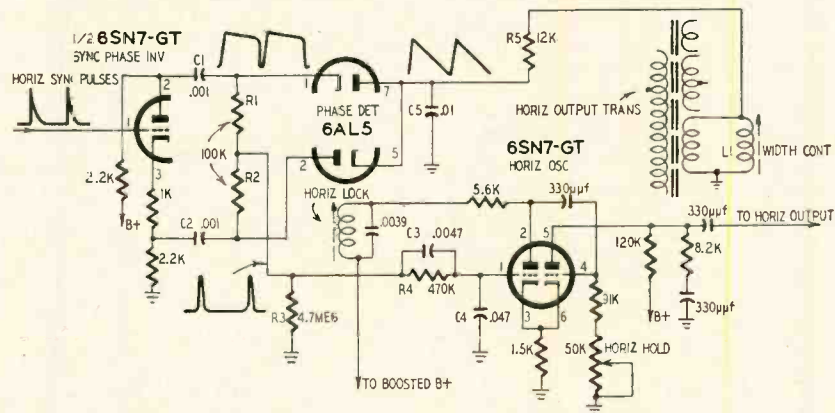

Fig. 4—Diagram of diode phase detector automatic frequency control circuit.
1. *Phase detector* (Fig. 4). In this system, a square wave is taken from the horizontal output circuit and integrated (fed through R5-C5 with the output taken across the capacitor). The resultant sawtooth wave is applied to one plate and one cathode of a dual diode (pins 5 and 7 of a 6AL5). Positive horizontal sync pulses are applied to the other diode plate (pin 2) and negative horizontal sync pulses to the other cathode (pin 1) of the 6AL5. When the sync pulses and sawtooth are the same frequency and in phase, no a.f.c. output voltage is developed. When the horizontal sawtooth is at a different frequency or out of phase compared to the sync pulses, one or the other of the diodes conducts. Either a positive or a negative d.c. voltage is then developed at the grid of the horizontal oscillator.
4. *Triode phase detector* (Fig. 7). The general operation of this circuit is similar to the phase detector of Fig. 4. A triode is used instead of a dual diode. The negative horizontal sync pulse input is applied to the cathode of the phase detector. The horizontal sweep waveform is applied to the plate. When the frequency is too low, the sawtooth voltage at the plate is negative when the sync pulse is applied to the cathode. The grid draws current, producing a negative voltage at the phase detector grid. The grid and cathode act very much as a diode rectifier circuit. The pulsating negative voltage is filtered by the R-C circuit connected to the phase detector grid and the resulting negative d.c. voltage is applied to the oscillator grid, increasing the frequency to the original value.
Horizontal bend can be caused by an unbalance of horizontal sync pulses to the phase detector tube (pins 1 and 2, Fig. 4). To check for unbalance note the peak-to-peak amplitude of incoming
In some cases, manufacturers have recommended modifications of the a.f.c. circuit to improve stability. For example, two of the many causes of horizontal bend are insufficient filtering of the d.c. correction output voltage from the a.f.c. stage and poor choice of capacitor value at various points in the a.f.c. circuit. If there is a bend or hook in the top of the picture in a receiver with a phase detector, triode phase detector or Synchrolock circuit, it may be helpful to change the output filter capacitor from .05 to 0.1  $\mu$ f (C4, Fig. 4; C2, Fig. 6; C2, Fig. 7). Increasing the value of this capacitor improves the filtering of the d.c. control voltage of the a.f.c. system.
2. To minimize erratic horizontal sync (flagging at the top of the picture), change C1, C2 (Fig. 4) to 500  $\mu$ f.
In Fig. 4, the anti-hunt circuit C3, R4 operates with R1, R2, R3 and C4 to develop the output correction voltage. This is true in all a.f.c. systems. The